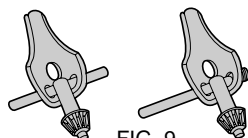

FIG. 9
3. Push ends of chuck key handle through two holes in end of holder (Figure 9.)